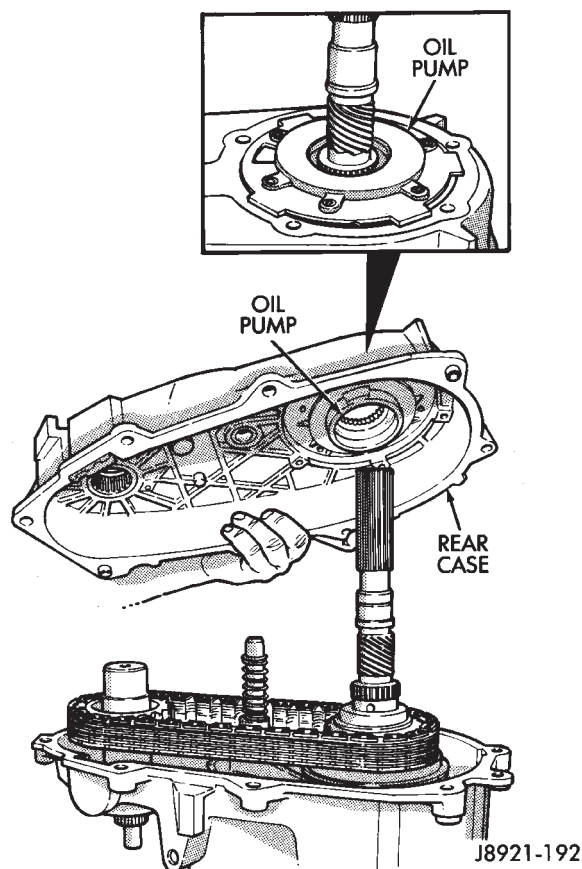

Fig. 67 Installing Rear Case On Front Case
(7) Clean sealing surfaces of rear case front case, retainer and extension. Use 3M all purpose cleaner or equivalent product.
(8) Apply 3 mm (1/8 in.) wide bead of Mopar gasket maker, silicone adhesive sealer, or Loctite 518 to sealing surface of front case.
(9) Align and install rear case/oil pump assembly on front case (Fig. 67). Be sure case locating dowels are in place and that mainshaft splines are engaged in oil pump inner gear.